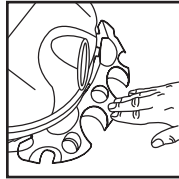

FIGURE 10
10. Press down on center of tool holder until tab latches on bottom of lid. **FIGURE 10**.